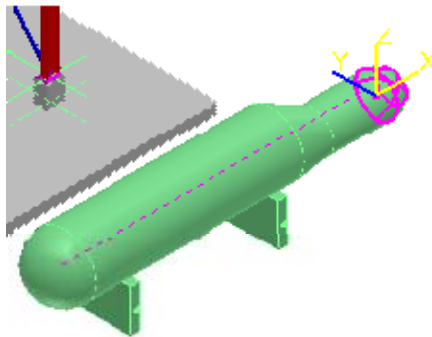

Figure 29: The Second Cap Placed
27. Repeat steps 25-26 with dimensions as **4 ft** for **A** and **2 ft** for **B** to place the second cap of the equipment object, as shown in Figure 29.